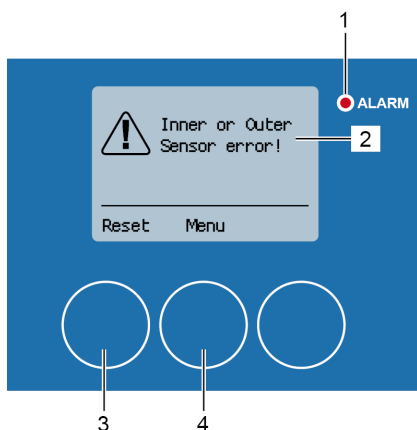

Fig. 190: Inner or outer sensor alarm
The alarm message "Inner or Outer sensor error!" (Fig. 190/2) occurs during the cleaning process if there is a problem with the inner and/or outer proximity sensor. The red alarm LED (Fig. 190/1) lights up.
2. Reset the alarm message with [Reset] (Fig. 190/3).
If the alarm message is reset without first rectifying the error, the alarm message appears again. The "1 Main menu" menu can be called up via [Menu] (Fig. 190/4), e.g. to check the signal status of the proximity sensors ↗ chapter 7.6 Status indicators on page 108.